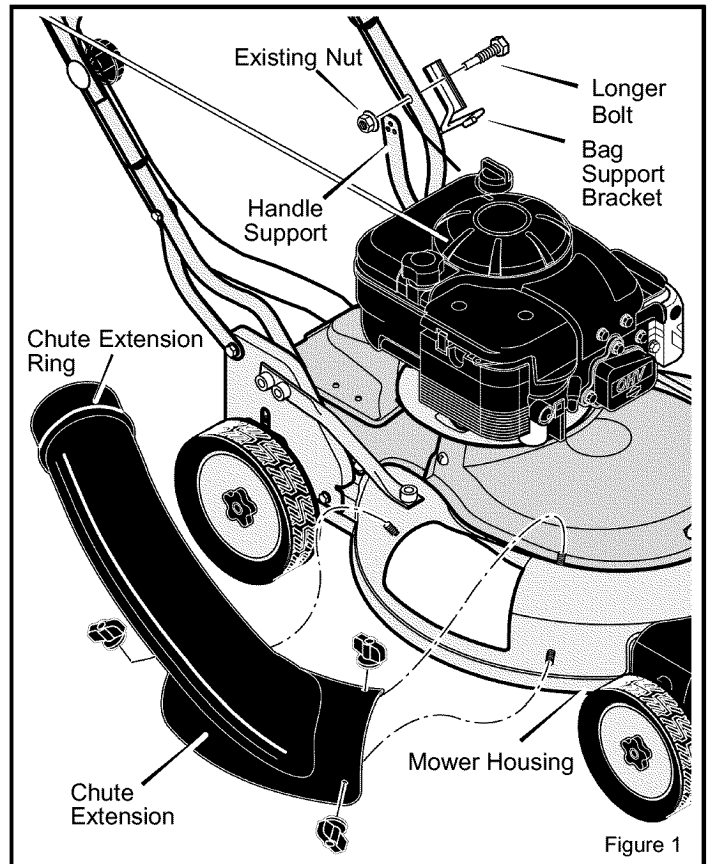

Figure 1
1. Remove the bolt that attaches the left **handle support** from the lower handle (see Figure 1).
2. Use the **longer bolt**, supplied with the grass bag, and the **existing nut** to attach the **bag support bracket** to the lower handle (see Figure 1).
3. Make sure the **clamp** slides over the **chute extension ring** and release the **clamp** (see chute extension ring in Figure 1).